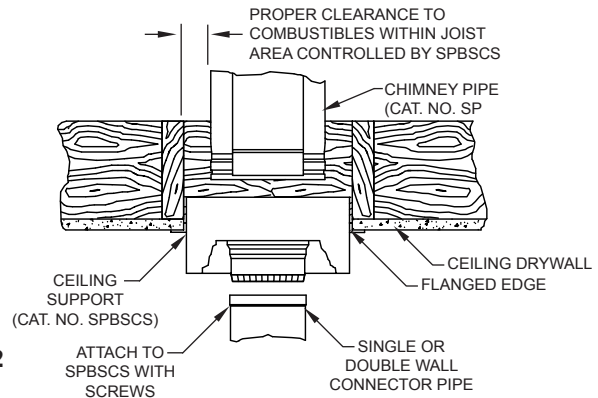
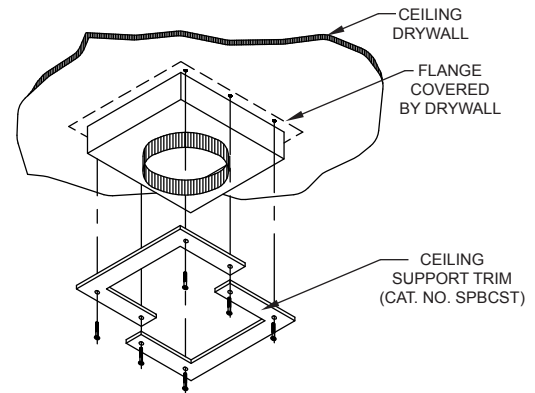

FIG. 2
FIG. 3
3. As shown in FIG. 2, insert the Ceiling Support (SPBSCS) from below until the flanged edges are firmly against the ceiling drywall. Secure into framing with eight (8) 8-penny nails inserted through the sides of the ceiling support. If the SPBSCS was installed during construction and drywall now covers the flanged edges, install IHP's ceiling support trim kit (SPBCST), as shown in FIG. 3.
4. Single wall or double wall connector pipe may now be installed between the appliance and the ceiling support. (See FIG 2.)